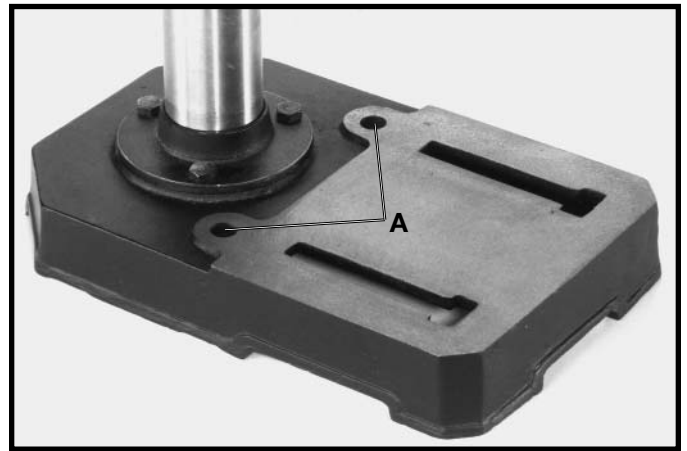

Fig. 14
If during operation there is any tendency for the machine to tip over, slide or walk on the supporting surface, the machine base must be secured to the supporting surface with a M8x1.25x125mm carriage head screw, 8.5mm flat washer, 8.5mm lock washer, M8x1.25 hex nut, through the two holes (A) Fig. 14, located in the machine base.